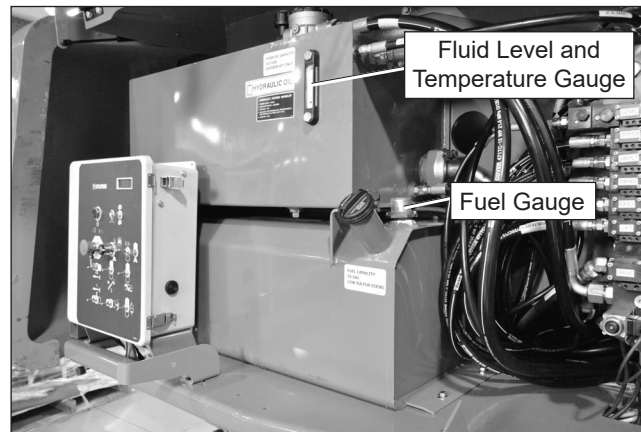

Figure 7.3 – Fuel Tank and Hydraulic Reservoir
Check the fuel level (refer to Figure 7.3) and add fuel if necessary. Make sure the cap is securely fastened.
3. Visually check to make sure the fluid is visible in the sight glass (refer to Figure 7.3).